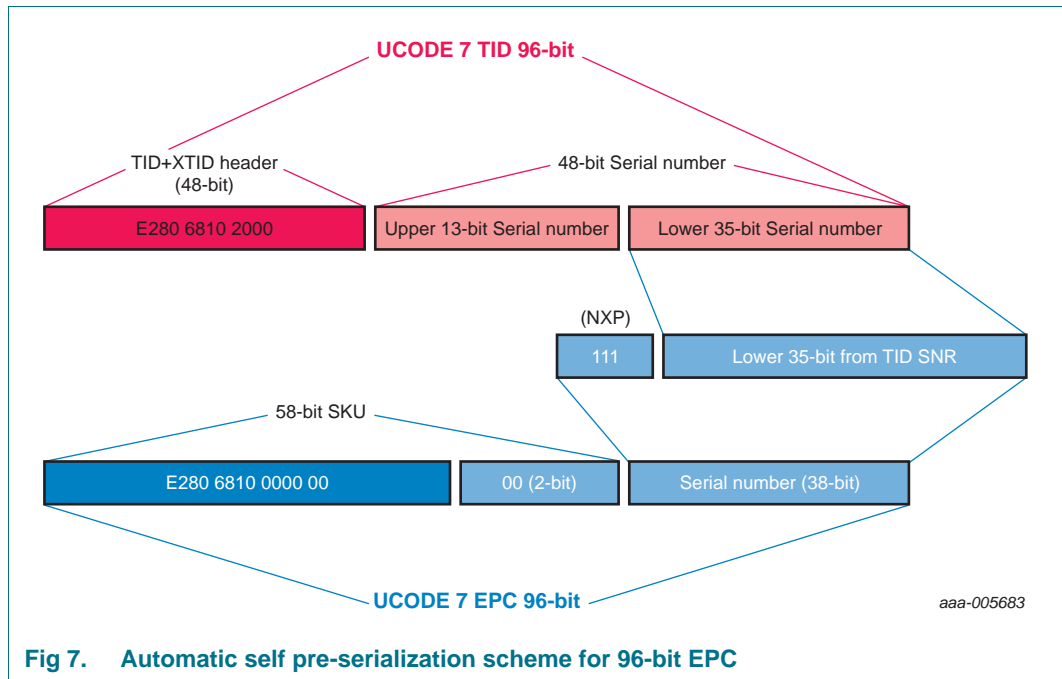

Fig 7. Automatic self pre-serialization scheme for 96-bit EPC
In case the EPC length is set to be 96-bit, the EPC is by default self pre-serialized following a 96-bit EPC serialization scheme according to the Multi Vendor Chip-based serialization guideline (see Ref. 23), meaning the lower 38-bit will always contain 3 bits for the manufacturer code (111 for NXP) and 35 bit serial number taken from the lower 35 bits of the TID serial number (see Figure 7).
- Setting the 38-bit Serial number of the EPC to “0” (see Figure 7), or